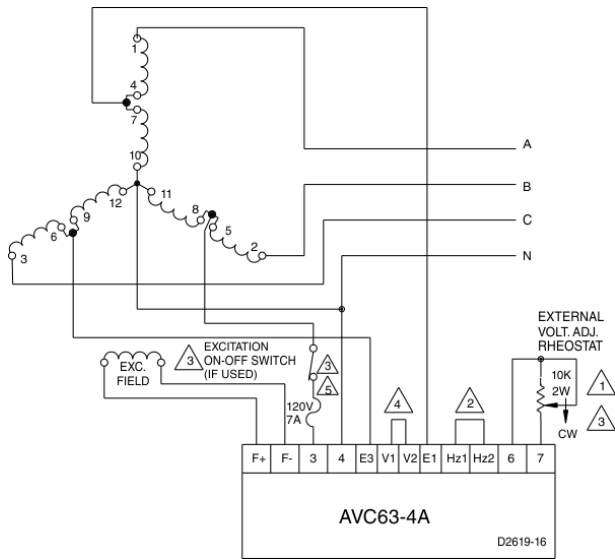
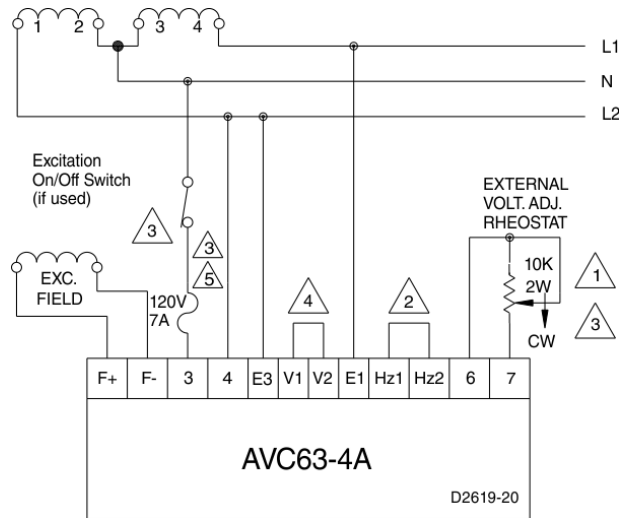
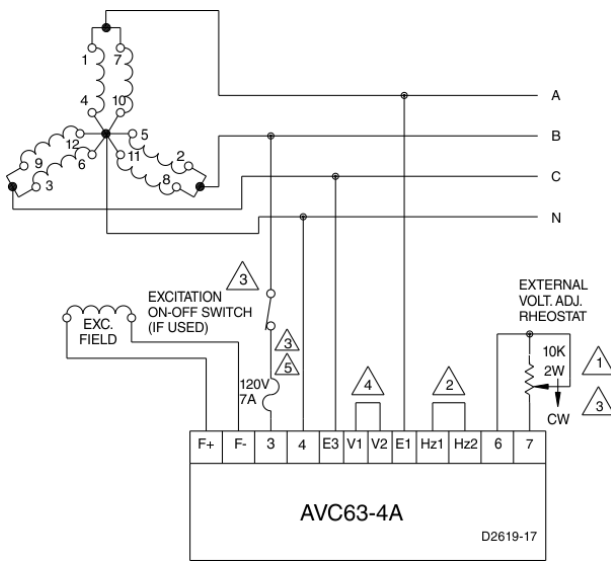
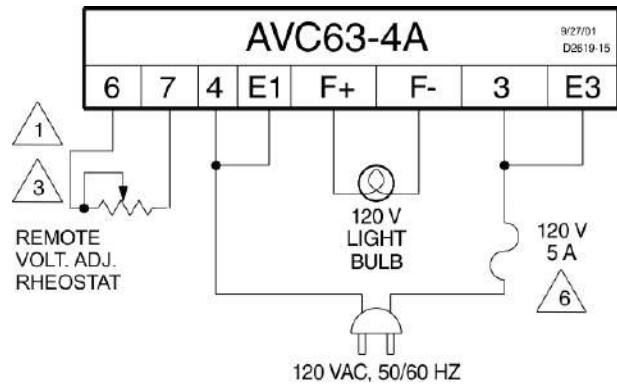

Figure 4. Interconnection Diagram, 277/480 Vac Nominal, Three-Phase, Four-Wire, Wye Connection
Figure 6. Interconnection Diagram, 120-240 Vac Nominal, Single-Phase, Three-Wire Connection
Figure 5. Interconnection Diagram, 120/208 Vac Nominal, Three-Phase, Four-Wire, Wye Connection
Figure 7. Interconnection Diagram, Operational Test
To protect your wiring from faults before the regulator, fuses with high interruption capability should be installed according to the interconnection diagrams (Figure 4, Figure 5, and Figure 6).
3. Ensure that the AVC63-4A is connected to the generator system correctly. Connections for typical AVC63-4A applications are shown in Figure 4, Figure 5, and Figure 6.
1. Connect the AVC63-4A as shown in Figure 7 but do not apply power yet. Ensure that the light bulb is rated for 120 Vac and less than 100 W.
The following notes apply to the interconnection diagrams (Figure 4, Figure 5, and Figure 6) and the operational test diagram (Figure 7).